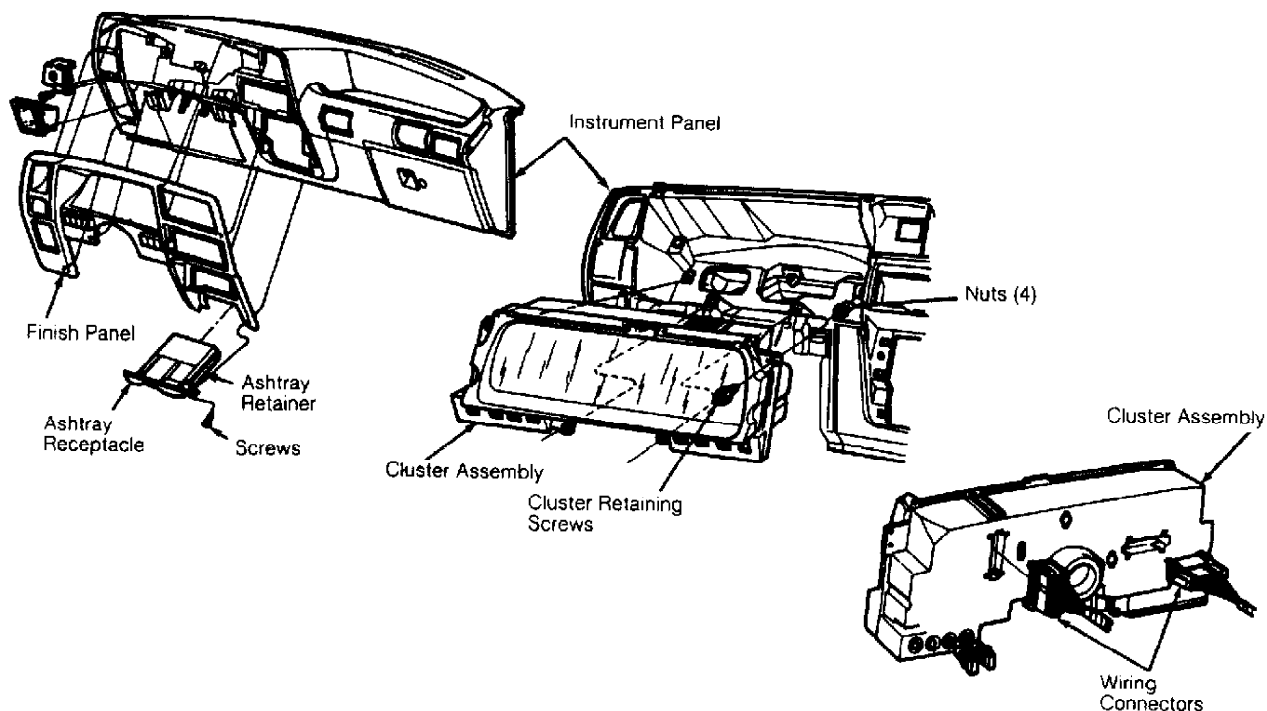

Fig. 10: Removing Instrument Cluster (Navajo)
1) Disconnect negative battery cable. Remove column covers. Tilt steering wheel down (if equipped with tilt wheel) or remove steering wheel. Remove lower instrument panel cover. Remove instrument cluster cover. Remove instrument cluster mounting screws. See Fig. 10. Pull cluster slightly away from dash.